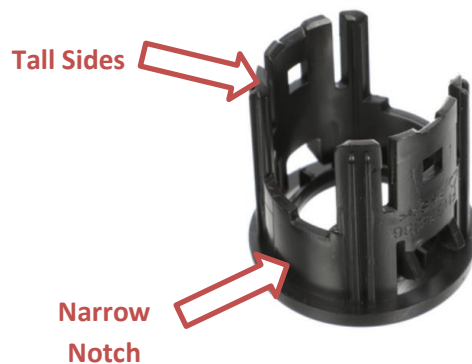

Figure 5
20. If your truck is equipped with factory parking sensors, remove the bezels from your stock bumper and install them into the MOD bumper. Ensure to orient the bezels with the Tall sides facing up/down, and the Narrow Notch facing towards the outside of the vehicle, ie: on the left two holes of the bumper the narrow notch faces left, on the right holes it faces right, as indicated in **Figure 5**.